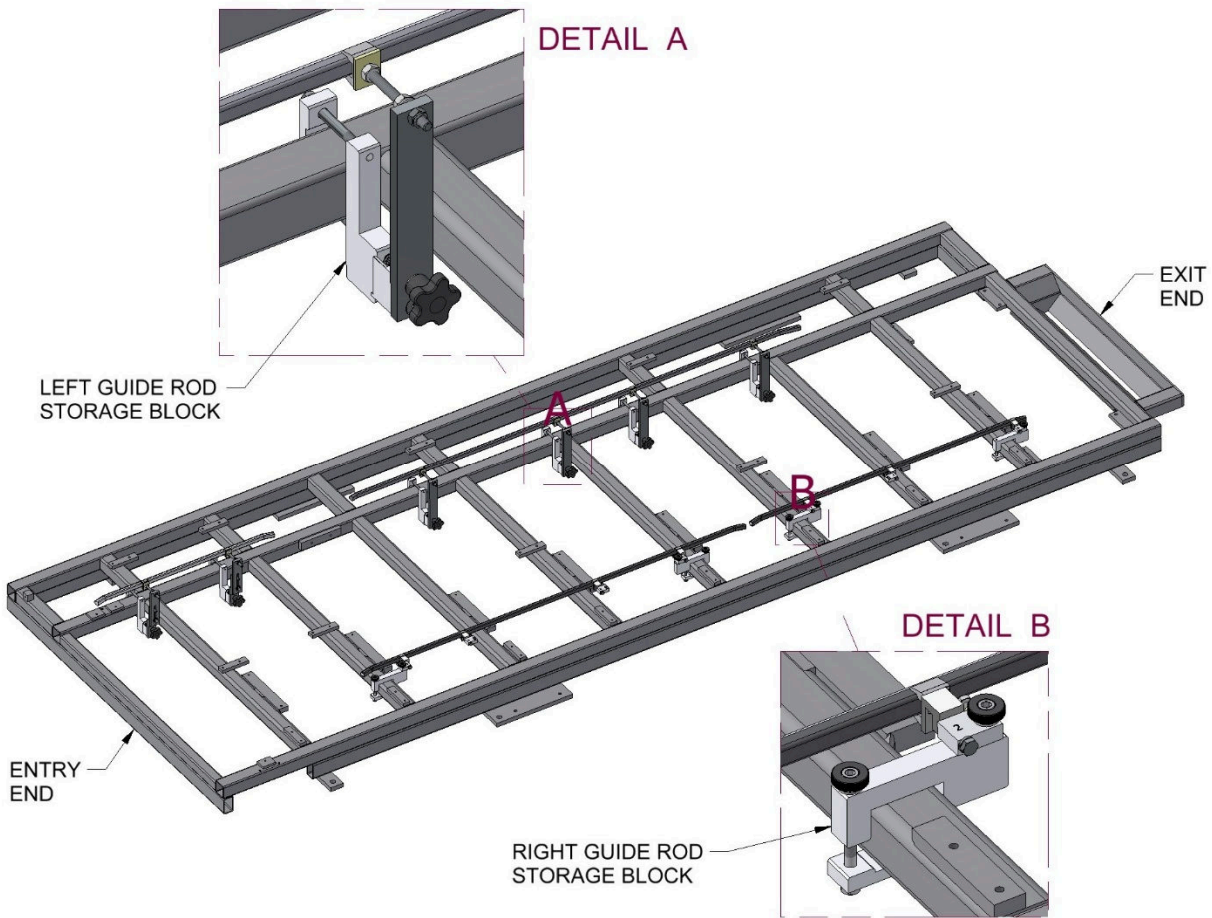

Figure 124: Quick Release Guide Rods in Storage Position
3. Remove the two Right Guide Rods and attach them to the Right Guide Rod Storage Blocks (see Figure 124). The three extra knobs can also be stored on the blocks.